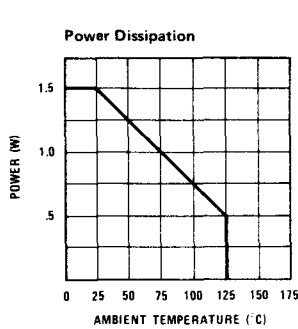

Figure 1.
**Note 1:** Characteristics apply for circuit of Figure 1. Min and max limits apply from -55°C to +125°C for the MH0012 and from 0°C to +85°C for the MH0012C. Typical values are for  $T_A = 25°C$ .